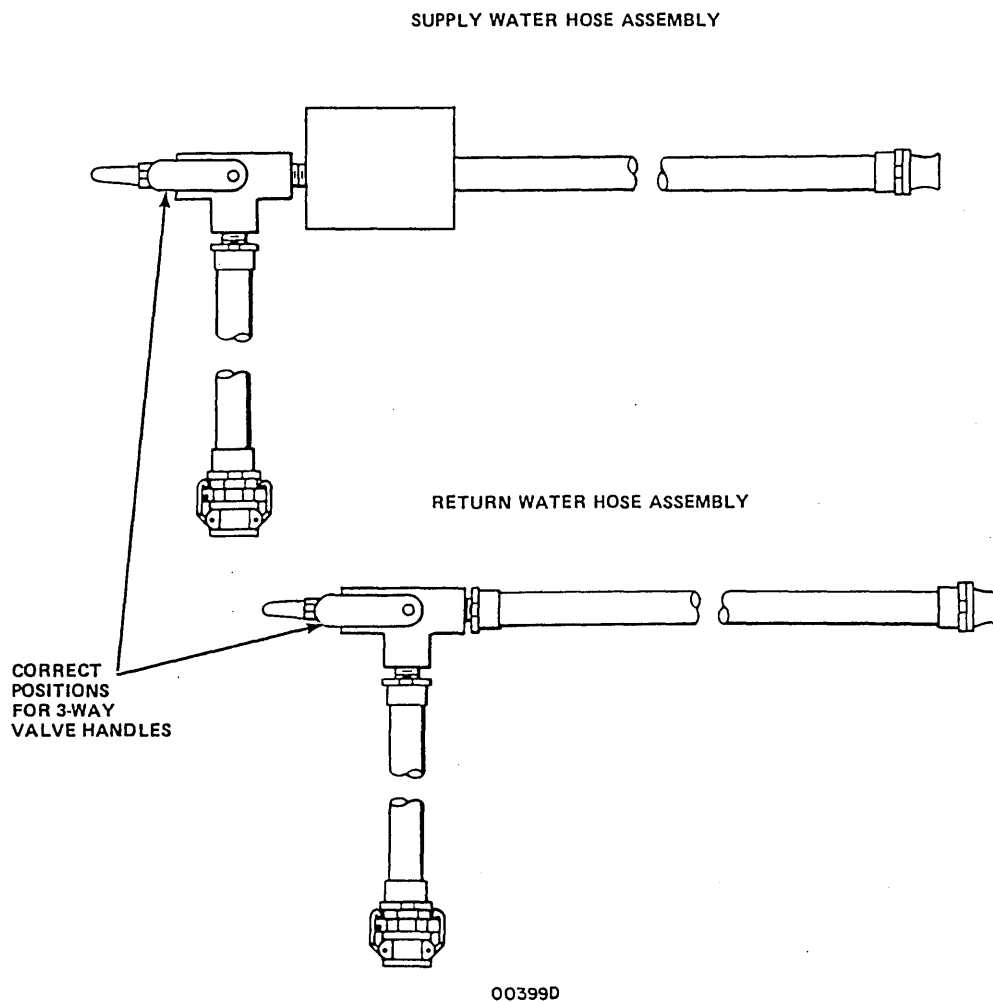

Figure 3-26. Supply and Return Hose Assemblies 3-Way Valves
6. Check that 3-way valve handles on supply and return hose assemblies are set as shown in figure 3-26.